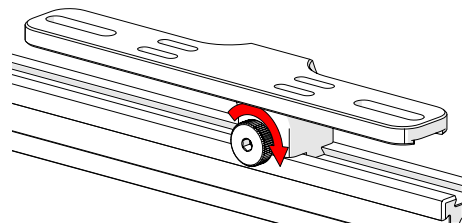

Fig. 69 - Tighten knob
2. Tighten the knob to lock the preamp bracket in place (Fig. 69).